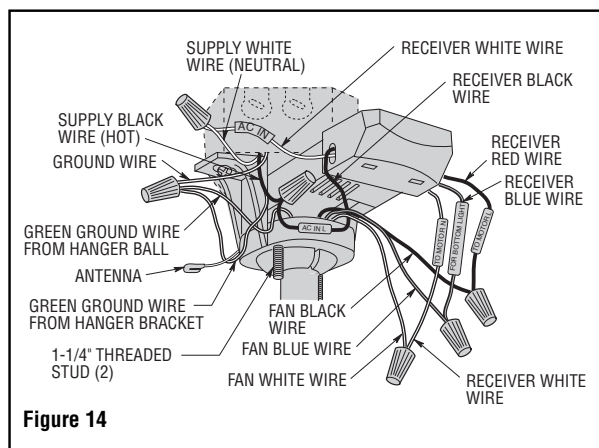

Figure 14
1. Position the supply wires to the left side of the outlet box (Figure 14); position the fan wires to the right side. Partially insert the remote control receiver (flat side up) until one end rests on the hanger ball as shown in Figure 14.
2. Refer to Figure 14 and 15 and connect the receiver wires to the supply wires and the fan motor wires as follows: